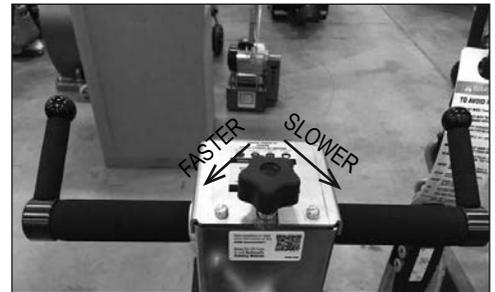

FIG. 4
- Turning speed control knob counterclockwise will increase maximum forward speed (Figure 4).
- Turning speed control knob clockwise will decrease maximum forward speed (Figure 4).
2. Turn speed control knob to slowest position (Figure 4).